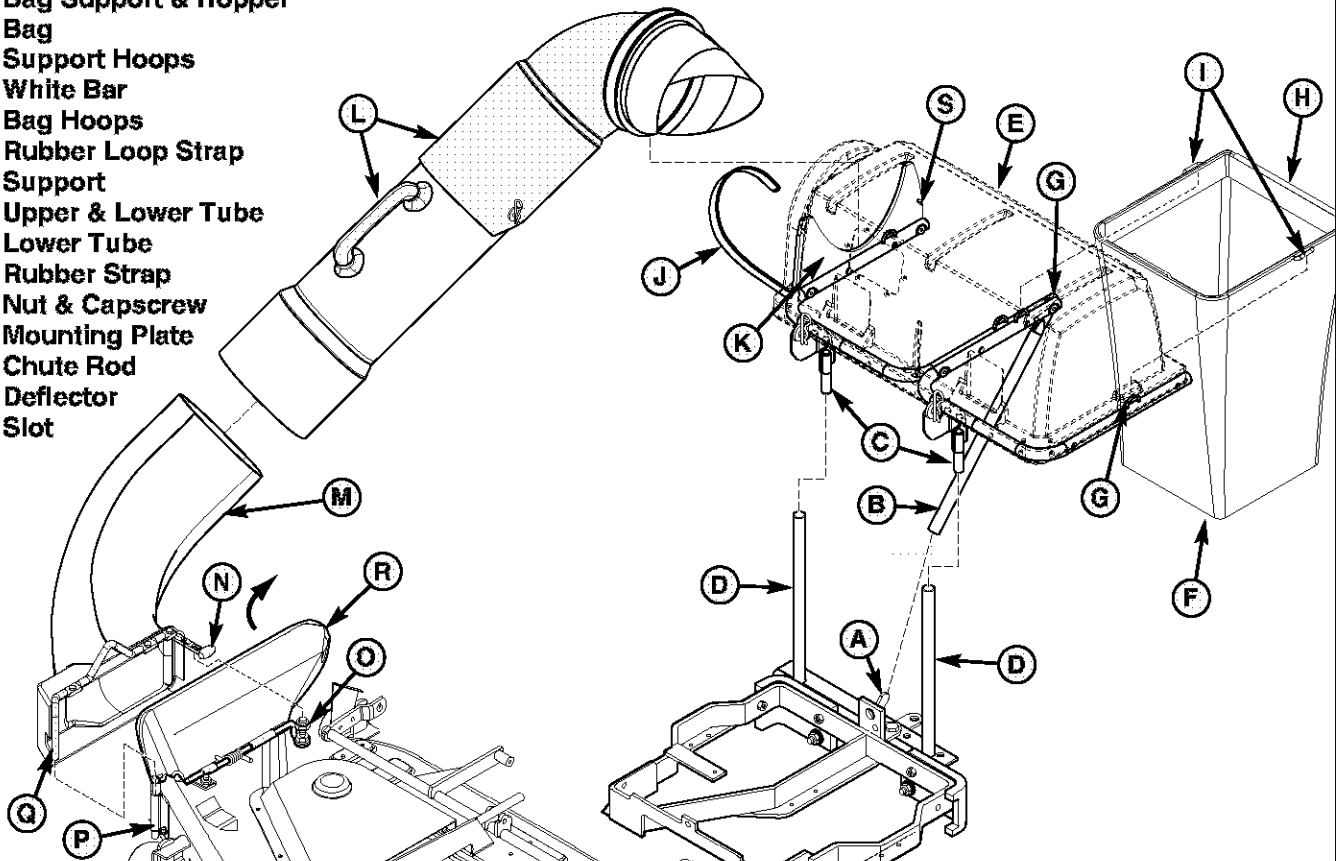

Figure 12. Normal Installation & Removal
1. Mount the bag support & hopper (E, Figure 12) by inserting tube (B) over hitch post (A) and inserting posts (C) into hitch tubes (D).
2. Pivot bag support and hopper (E) up. Install bag (F) with white bar (H) towards the rear. Set bag hoops (I) on bag support hoops (G) as shown. Repeat for other side.
3. Install lower tube (M). Lift discharge deflector up (R). Insert lower chute rod (Q) into mounting plate (P). Pull rubber strap (N) and secure by placing hole closest to knob in strap completely over locknut and capscrew (O).
4. Slide upper & middle tube (L) over lower tube (M). Set upper & middle tube (L) onto support (K). Secure with rubber loop strap (J) by hooking it into slot (S).
1. Unhook rubber loop strap (J, Figure 12) from slot (S).
2. Remove upper & lower tube (L) from support (K) and lower tube (M).
3. Disconnect rubber strap (N) from locknut and capscrew (O). Remove lower tube (M) from bracket (P). See that discharge deflector (R) returns to the DOWN position.
4. Lift and remove bag support and hopper from hitch tubes (D) and the hitch post (A).